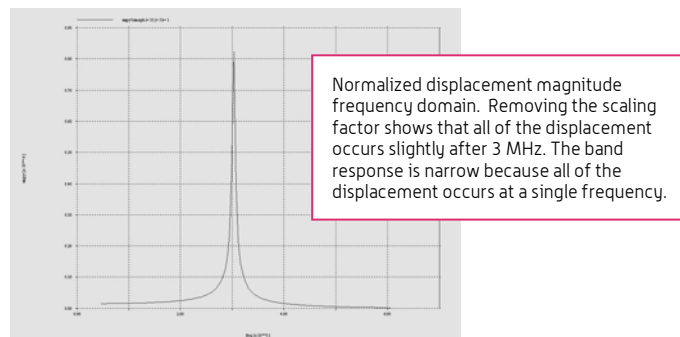

Figure 84—Normalization of the Displacement Spectra
Enter the “term” command to go to Fig. 84, which shows the normalization of the displacement FFT. To compare these results with the FFT results for similar models requires the same scaling factor, which is dependent on the total time (tMAX), the total number of points (NT), and therefore the time step between the points (Δt). The FFT of functions with different time bases always show the same shape graph but may have different linear scaling factors. One way to compare two FFTs is to make sure that the time step, total number of points, and maximum time are identical for both simulations. Otherwise the results will be valid only for that specific tMAX, NT, and Δt .
The normalized graph shows the frequency ranges in which maximum displacement occurs. It does not, however, show the extent of displacement at those frequencies. In the normalized graph, Fig. 84, a large peak is centered slightly after 3 kHz. Thus for the maximum displacement from the model, you should use a frequency just over 3 kHz. Although the maximum displacement is not evident from this normalized graph, you know that it occurs at this specific frequency. More than one peak in the normalized displacement response would indicate multiple resonances in the structure. Each peak would represent a frequency that created a large displacement. To determine which frequency created the maximum displacement for a particular drive function, the simulation would have to be rerun at each frequency.